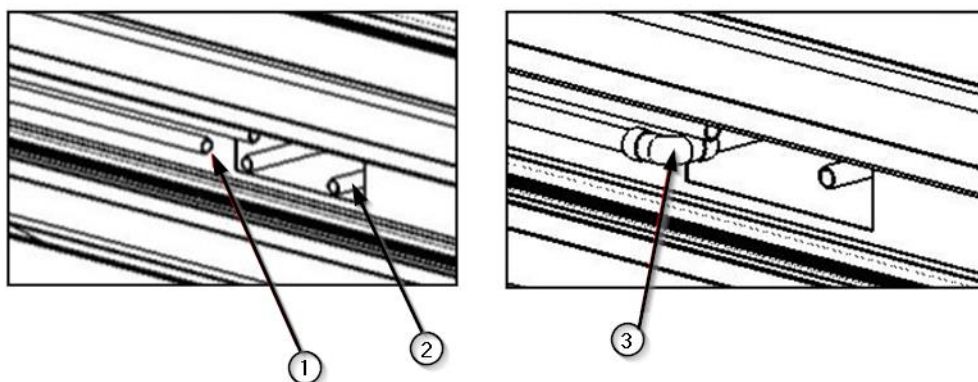

Fig.12 Cutting of pipes and fitting of copper fittings
- Cut off the pipe ① from the equipment piping and the pipe ② corresponding to the gas circuit in question coming from the installation.
- Place the copper fitting (elbow) ③ in position joining the two pipes.
- Solder the 3 components as shown in the picture on the right in figure 12.